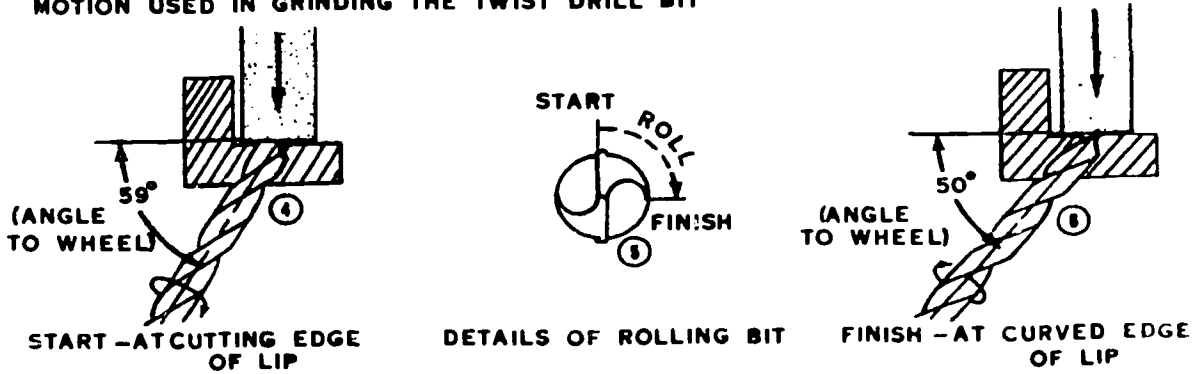

Figure 119. Sharpening the Twist Drill Bit
To sharpen the twist drill bit, examine the tip surface to identify the cutting edge and the curved edge, as shown in item 1 of figure 119. The cutting lip of the cutting edge should be sharpened at a  $59^\circ$  angle and the curved edge at approximately a  $50^\circ$  angle to the drill bit axis, as shown in item 3 of figure 119. This taper will prevent binding.
To sharpen the twist drill bit, place the bit on the grinder tool rest at a  $59^\circ$  angle while the wheel is turning. Lines drawing on the tool rest will help align the bit. Rotate the bit clockwise in your fingers so that the contour of the lip rolls on the turning wheel from the cutting edge toward the curved edge, as shown in items 4, 5, and 6 of figure 119.